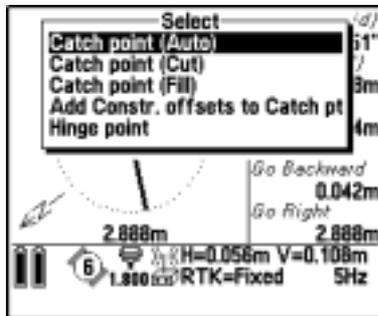

Figure 18.13 Select menu – side slope point
2. Press **Select** to select a side slope option, as shown in Figure 18.13.